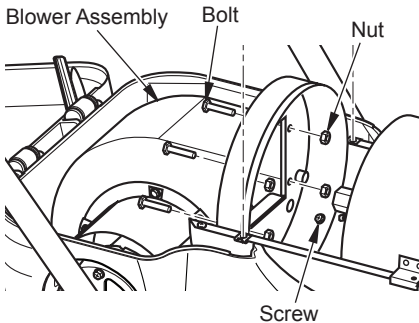

Figure 17 - Removing Blower Assembly
2. Disconnect wires from various connection points. Remove 2 screws securing blower to lower shell (see Figure 17). Carefully lift blower assembly from heater.
3. Remove 4 bolts and nuts securing blower assembly (see Figure 17).